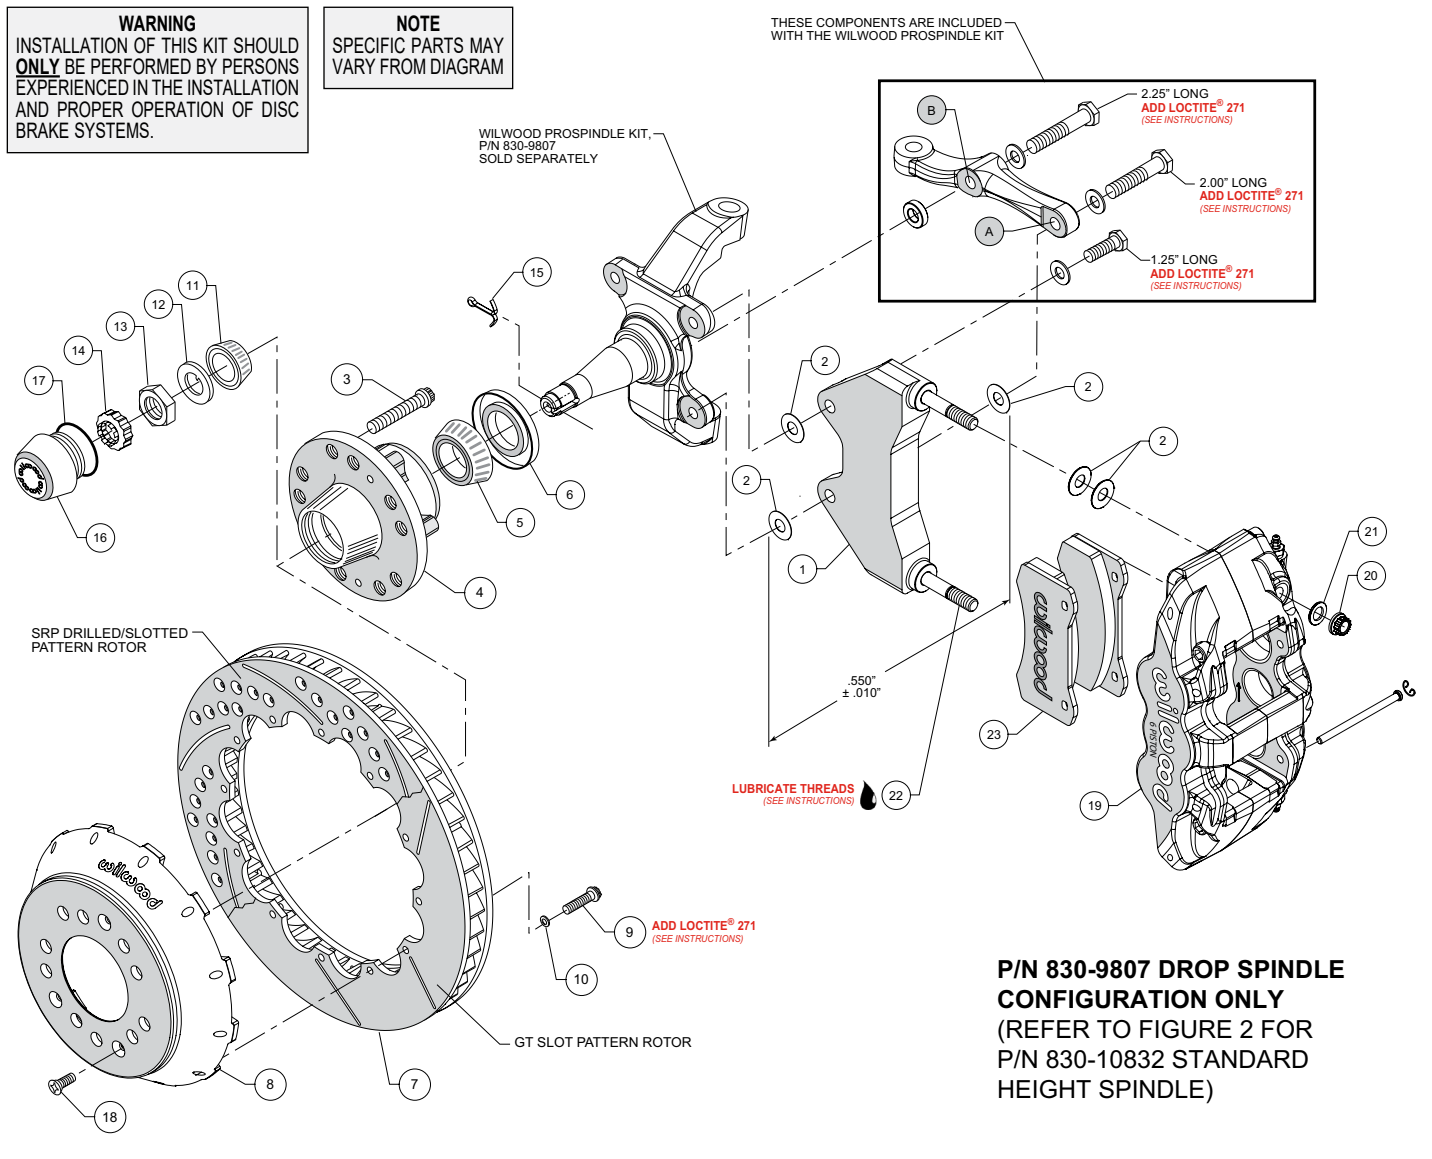
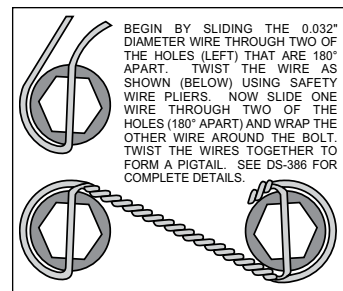

Figure 1. Installation Configuration For Drop Spindle, P/N 830-9807
Figure 4. Safety Wire Diagram
Numbers in parenthesis refer to the parts list and Figures 1 and 2 on the preceding pages.
- NOTE:** Each Wilwood ProSpindle kit includes bolts, washers, and a spacer to mount the steering arm and caliper bracket. The various bolts are identified by length in the following instructions and in Figures 1 and 2.
- Orient the bracket as shown in Figure 1 and Photo 1. Install at top spindle hole using 1.25" long bolt and .06" thick washer (from ProSpindle kit), and one .030" thick shim (2) between the bracket and spindle, Figure 1.
- Orient the steering arm, and identify the hole marked 'A', as shown in Figure 1. Install at bottom spindle hole using 2.00" long bolt, .06" thick washer (from ProSpindle kit), one .030" thick shim (2) between the steering arm and the bracket, and another .030" thick shim (2) between the bracket and spindle, Figure 1. The bracket is located between the steering arm and spindle. **NOTE:** *The bracket and shim washers must add up to a total thickness of .550" ± .010", Figure 1.*
- Finish attaching the steering arm through the hole marked 'B', as shown in Figure 1. Install using 2.25" long bolt, .06" thick washer, and .25" thick spacer (all from ProSpindle kit), Figure 1.
- Install the grease seal (6) by pressing into the backside of the hub (4), flush with the end of the hub, Photo 4.
- Orient the rotor (7) and the hat (8) as shown in Figures 1 or 2, and Photo 5. Attach rotor to hat using bolts (9) and washers (10). Apply red *Loctite*® 271 to the bolt threads and torque to 155 **in-lb** using a criss-cross pattern. For an added measure of security, the bolts may be safety wired using standard 0.032 inch diameter stainless steel safety wire as shown in Figure 4. Refer to Wilwood's data sheet DS-386 (available at www.wilwood.com/Pdf/DataSheets/ds386.pdf) for complete safety wire installation instructions.
- Screw dust cap (16) into hub (4), Photo 7. Friction created by the o-ring (17) on the dust cap keeps it from unscrewing.
- Slide the hat/rotor assembly (7/8) onto the hub (4) taking care to align the small countersunk holes in the hat with the small threaded holes in the hub. **NOTE:** The hat must fit flush against the hub face or excessive rotor run out may result. Install three flat head screws (18) through the small holes in the hat (8), Photo 7, and torque to 85 **in-lb**.
- NOTE:** This kit contains distinct right and left hand calipers that must be mounted in a specific direction, as described below. Lubricate the caliper mounting studs (22) with lightweight oil. Initially place two .030" thick shims (2) on each stud as shown in Figure 1 or 2, and Photo 8. Mount the caliper (19) onto the bracket (1) using lock nuts (20) and washers (21), Figure 1 or 2. Ensure that the caliper is mounted so the largest pistons are at the rotor exit end of the caliper, in relation to the direction of rotor rotation. Temporarily tighten the lock nuts. View the rotor through the top opening of the caliper. The rotor should be centered in the caliper, Photo 9. If not, proceed as follows:
- For the lower bracket mount bolt, if a shim was added between the bracket and spindle, then a shim must be removed between the steering arm and bracket, such that the total thickness of bracket and shims remain equal to $.550 \pm .010$ ", Figure 1.
- Adjust by adding or subtracting shims (2) between the bracket and the spindle. Always use the same amount of shims on each of the two mounting bolts.
- Remove the two pad retaining pins from the caliper (19) by carefully popping out the pin retaining clips and sliding out the pins. Insert the brake pads (23) into the caliper from the bottom, Figure 1 or 2, and Photo 10. With the friction material facing the rotor, secure the brake pads in place with the pad retaining pins and clips, Photo 11. Reinstall the caliper onto the caliper mounting bracket and temporarily tighten the lock nuts. Check that the top of the brake pad is flush with the outside diameter of the rotor, Photo 12. If not, adjust by adding or subtracting shims (2) between the caliper and the bracket. After the caliper pad height is set, torque the caliper lock nuts (20) to 47 ft-lb.